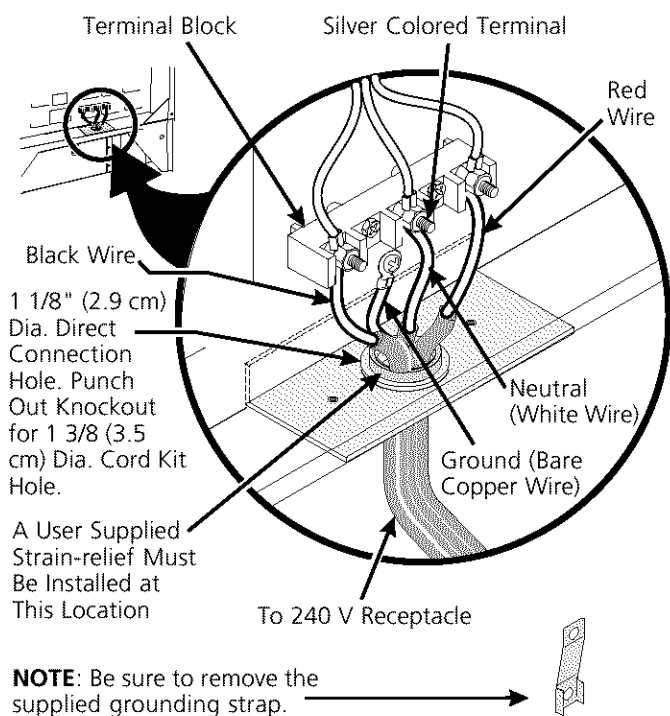

Figure 5
This appliance may be connected by means of permanent "hard wiring" (flexible armored or nonmetallic shielded copper cable), or by means of a power supply cord kit. Only a power supply cord kit rated at 125/250 volts minimum, 40 amperes and marked for use with ranges shall be used. See chart for cord kit connection opening size information. Cord must have either 3 or 4 conductors. For mobile home installation, or areas where local codes do not permit grounding through neutral, a 4 conductor power supply cord kit rated at 125/250 volts minimum, 40 amperes and marked for use with ranges should be used (see Figure 5).
4. Connect the ground wire (green) of the copper power supply cord to the frame of the appliance with the ground screw, using the hole in the frame where the ground strap was removed (see Figure 5).
6. Replace the 3 nuts on the terminal block (see figure 5).
If the appliance is connected directly to the circuit breaker, fuse box or junction box, use flexible, armored or nonmetallic sheathed copper cable (with grounding wire). Supply a U.L. listed strain-relief at each end of the cable. At the appliance end, the cable goes through the Direct Connection Hole (see Figure 5) on the Cord Mounting Plate. Wire sizes (**copper wire only**) and connections must conform to the rating of the appliance.